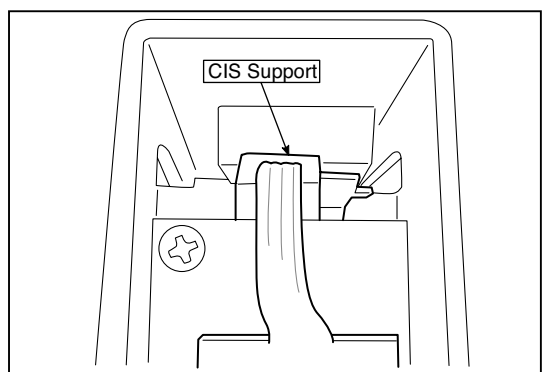

Fig.21
* The CIS Unit with a CIS Support (see Fig. 21) is located in the upper position.